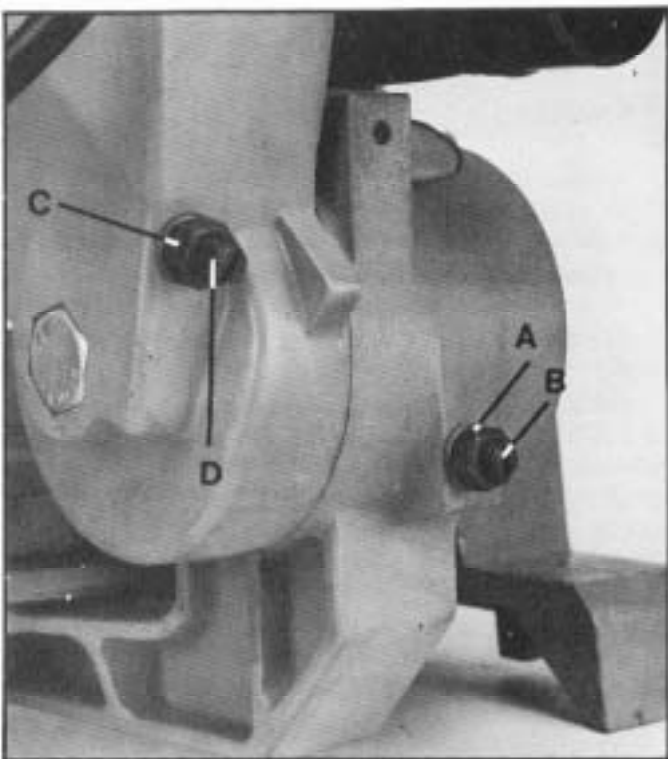

Fig. 25
This adjustment is made by loosening lock nut (A) Fig. 25, and turning the adjusting screw (B) in or out until the blade lowers to the desired position. Then tighten the lock nut (A).
1. Loosen locknut (C) Fig. 25, and turn adjusting screw (D) clockwise to increase or counterclockwise to decrease the spring tension. After tension is adjusted, tighten locknut (C).